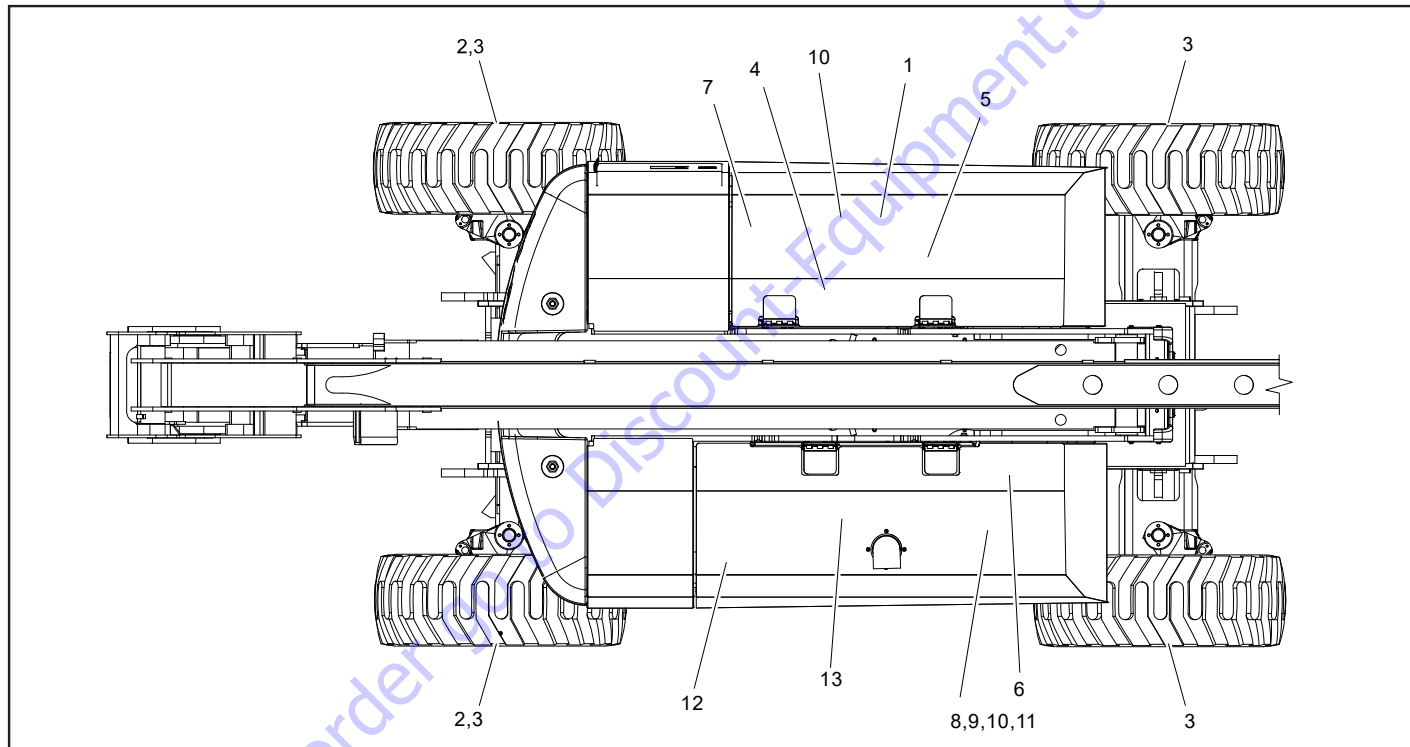

Figure 7-4. Maintenance and Lubrication Diagram
**NOTE:** The following numbers correspond to those in Figure 7-4., Maintenance and Lubrication Diagram.